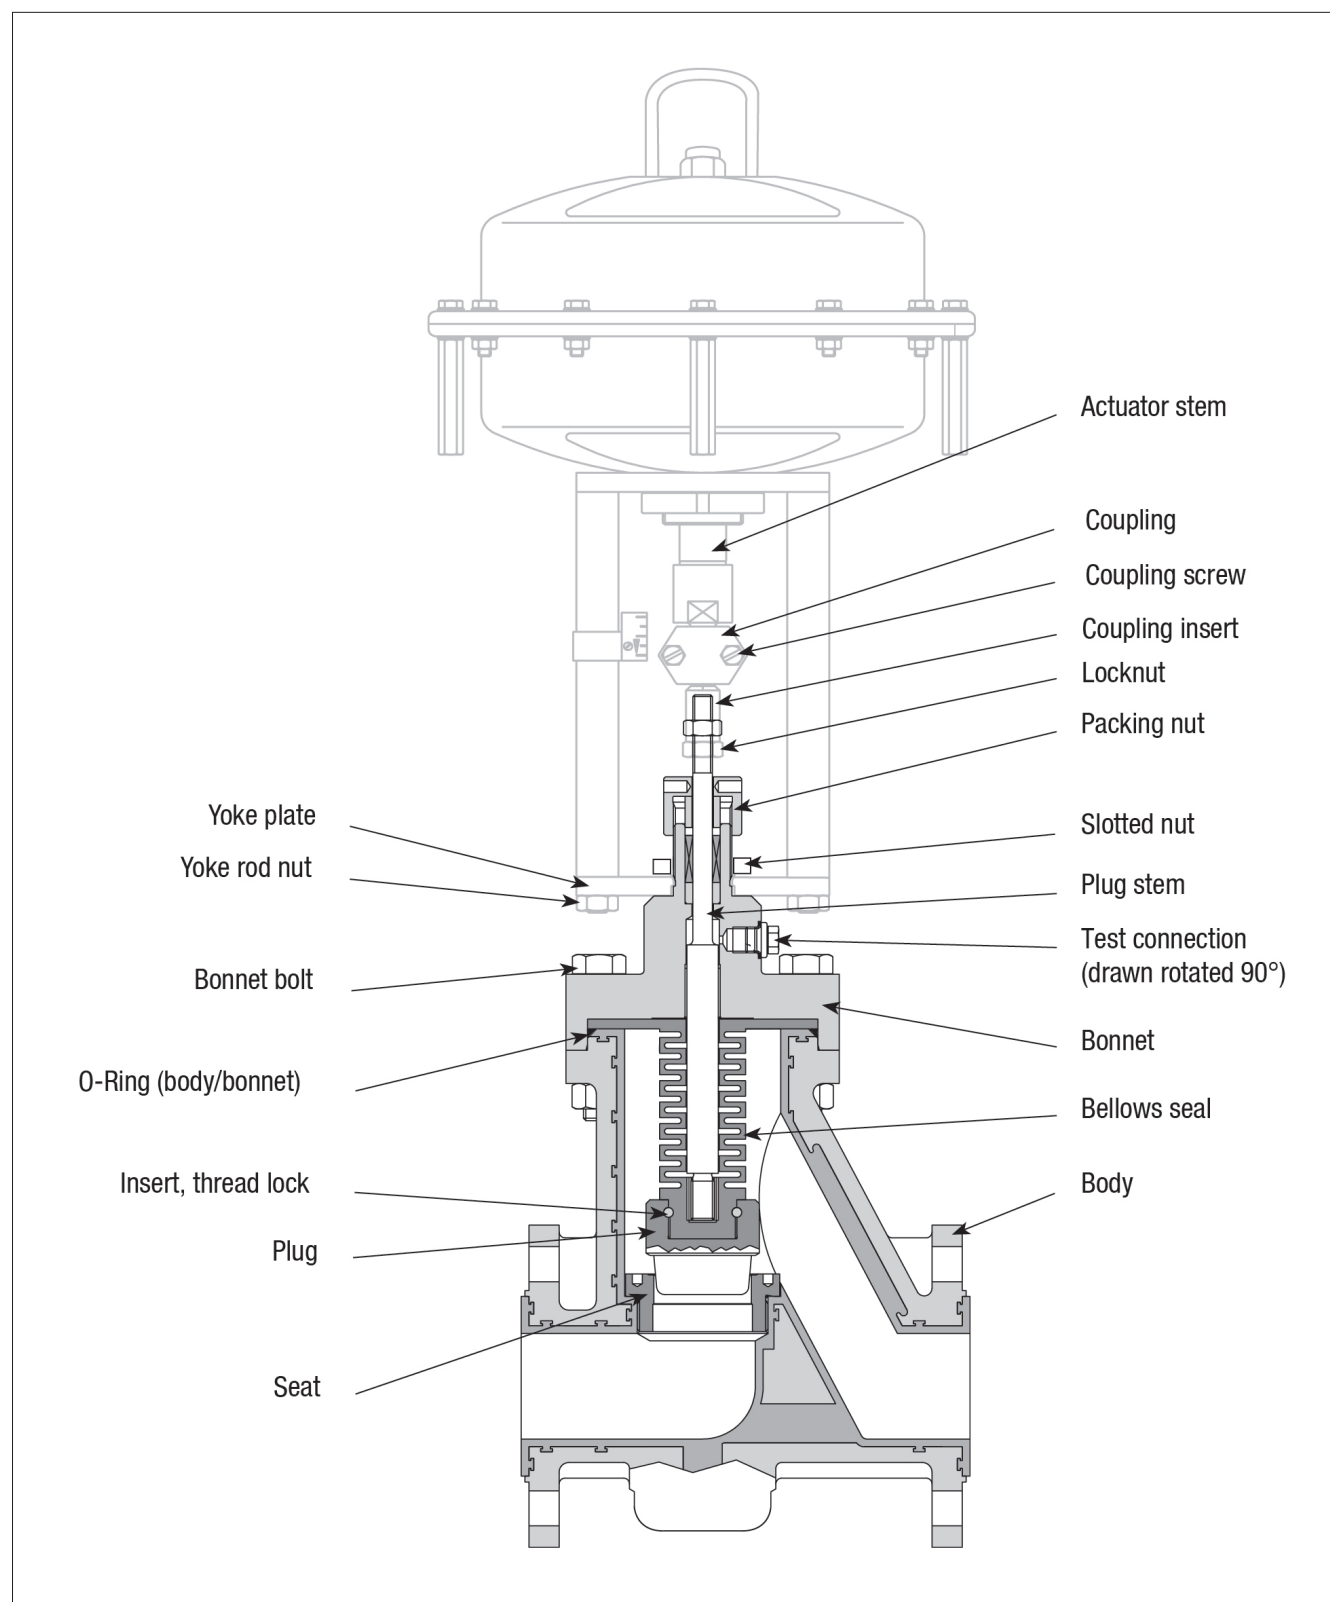

Fig. 1: Typical Valve Series 132000 with Series 2 Actuator
- 17.1** Check gaskets for leakage and retighten bolts if required (see Fig. 1).
(See Fig. 1)